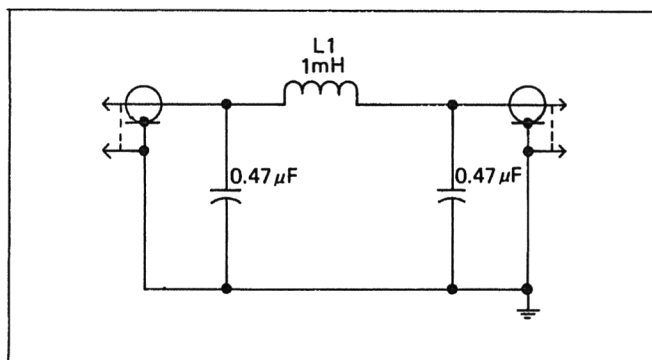
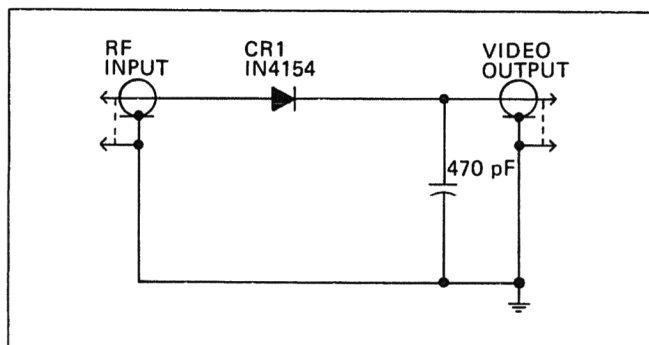
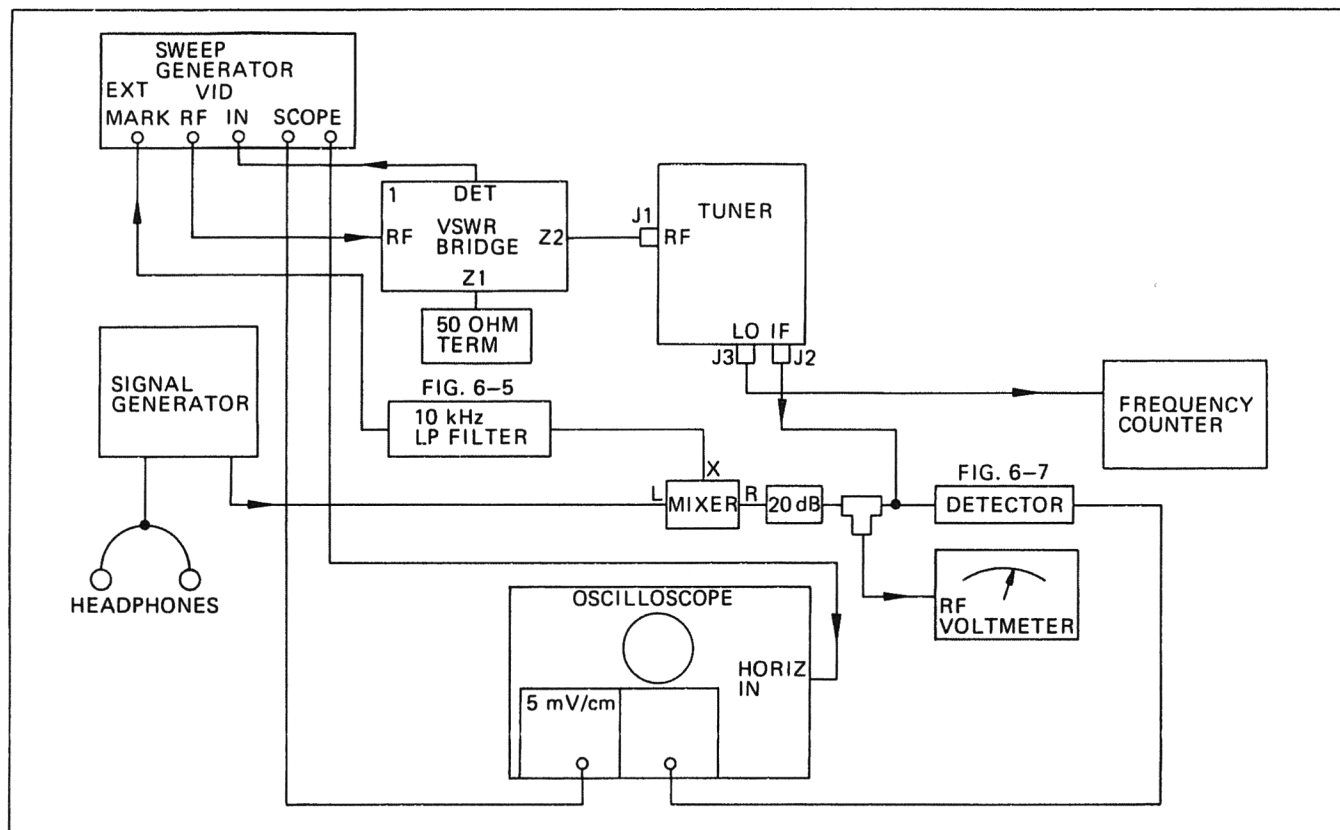

Figure 6-5. 10 kHz Low Pass Filter Schematic Diagram
Figure 6-7. RF Detector Schematic Diagram
Figure 6-6. Tuner Test Equipment Interconnections
- i. Interconnect the equipment as in Figure 6-6. (The 10 kHz low pass filter and detector may be assembled as in Figure 6-5 and Figure 6-7.)
- i. Interconnect the equipment as in Figure 6-6. (The 10 kHz low pass filter and detector may be assembled as in Figure 6-5 and Figure 6-7).